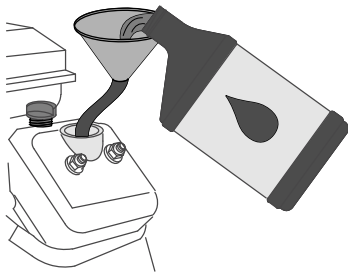

Figure 71
- If the oil level is low, wipe off the area around the filler neck and add the specified oil (Figure 71) until the oil level is between the hatch marked areas on the dipstick.